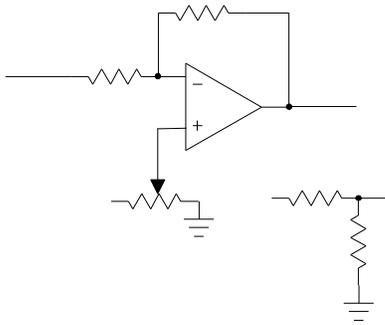

Figure 3. DC bias circuit for I and Q inputs (unbalanced drive)
5) The I and Q inputs require a DC offset of 2.5V. The offset can either be supplied by the I/Q signal generator or by using an op-amp circuit of the type shown in figure 3. The circuit provides inverting unity gain so the input signal should match the requirements of the modulator. 2.5 volt DC reference signals, equal in magnitude to the I/Q DC offsets must be connected to the pads marked "R" on the board. The R pads can be directly wired together. Note: performance of the IC is critically dependent on matching the DC levels at the